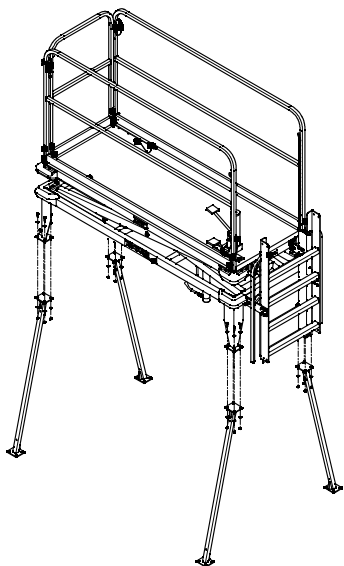

FIGURE 1
2. Install platform extensions to the bottom of platform assembly using $\frac{3}{8}$ -16 x 1½ inch long bolts (See **Figure 1**).